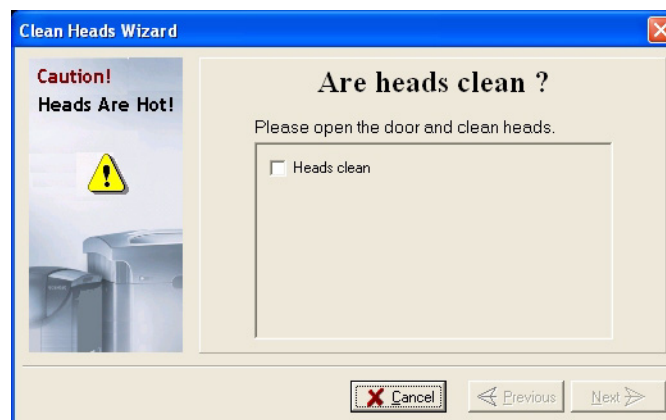

Figure 7-20:Head cleaning wizard—steps 5–10
10. When you have finished cleaning, select the confirmation check box in the wizard screen (see figure 7-20) and click **Next**.